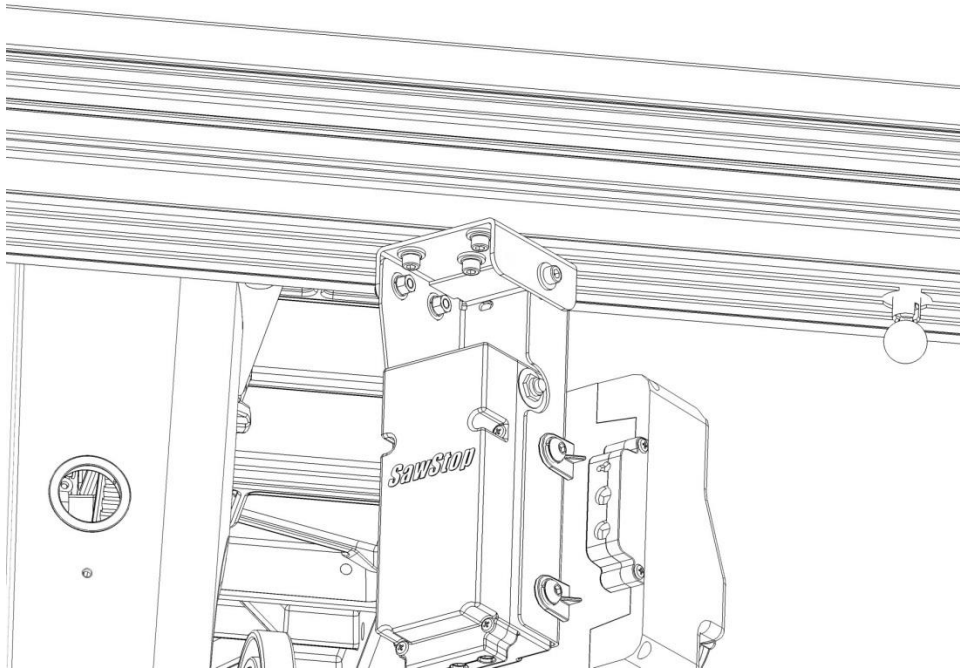

Fig. 9
7. For ICS saws ONLY: With the mounting holes aligned, thread two M10x1.5x25 cap screws (121) with two 10mm lock washers (122) and two 10mm flat washers (123) through the sliding table into the saw table. Only finger tighten the cap screws at this time. *Position the flat edge on the flat washers facing downward.*
8. For PCS and CNS saws ONLY: With the mounting holes aligned, thread two M8x1.25x25 cap screws (106) with two 8mm lock washers (107) and two 8mm flat washers (108) through the sliding table into the mounting holes of the saw table. Only finger tighten the cap screws at this time.
12. For PCS and CNS saws ONLY: Attach the switch box assembly to the mounting bracket on the underside of the sliding table using three M6x1.0x16 cap screws, six M6 washers, three M6 lock washers and three M6 nuts, as shown in **Fig. 9**.